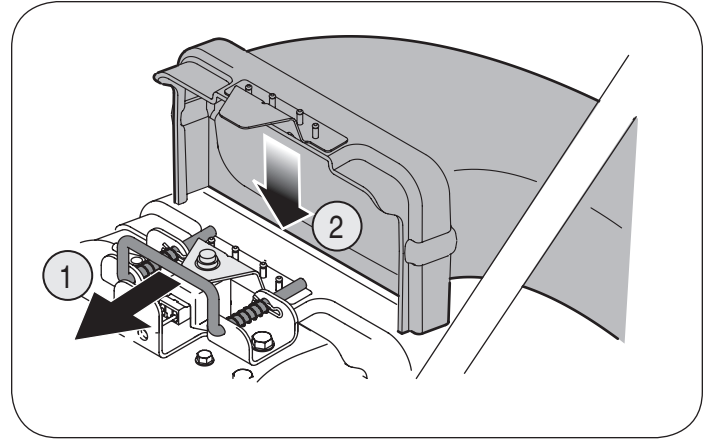

Figure 7
1. Grasp blower chute with one hand and slide locking rod on mounting bracket with other hand toward engine. Use the end of mounting bracket as leverage when sliding the locking rod. See Figure 7.
2. Slip blower chute over rim of discharge opening and release locking rod to secure chute in place, as in Figure 7.
1. Grasp blower chute with one hand and pull lock rod on mounting bracket with other hand toward engine to release. Refer to Figure 7 in the ASSEMBLY section.